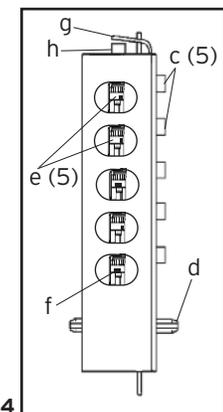

Fig. 4
9. Using pliers or equivalent, rotate the control shaft (**d**) counterclockwise to clear the chamber and release. The lockout slide (**g**) should pop out (button underneath will stay depressed) (**See Figure 4**).
10. Depress the key-stem/s (**c**) that you want in the combination, releasing each after it is depressed (**See Figure 4**).
11. Once all the digits in the new combination have been depressed, with the pliers or equivalent, rotate the control shaft (**d**) clockwise (**See Figure 4**). The code change button (**h**) underneath the lockout slide (**g**), should pop up (**See Figure 4**). The new combination is now set.
12. Look at the code gear pockets (**f**). The numbers in the new combination should not be at the shear line (open position) (**See Figure 4**).